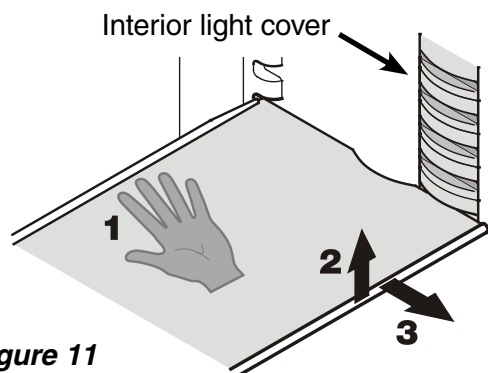

Figure 11
## Repositioning the shelves - Figure 11
- Remove glass shelves as shown in *Figure 11*.